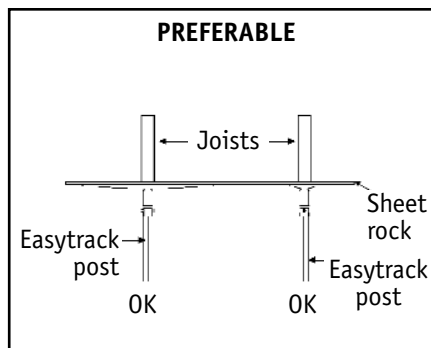

Figure 4
3. Though it is not a requirement to place the posts directly under a joist in the ceiling, it is preferable. It does not matter which direction the top plate is facing (Figures 4 & 5).